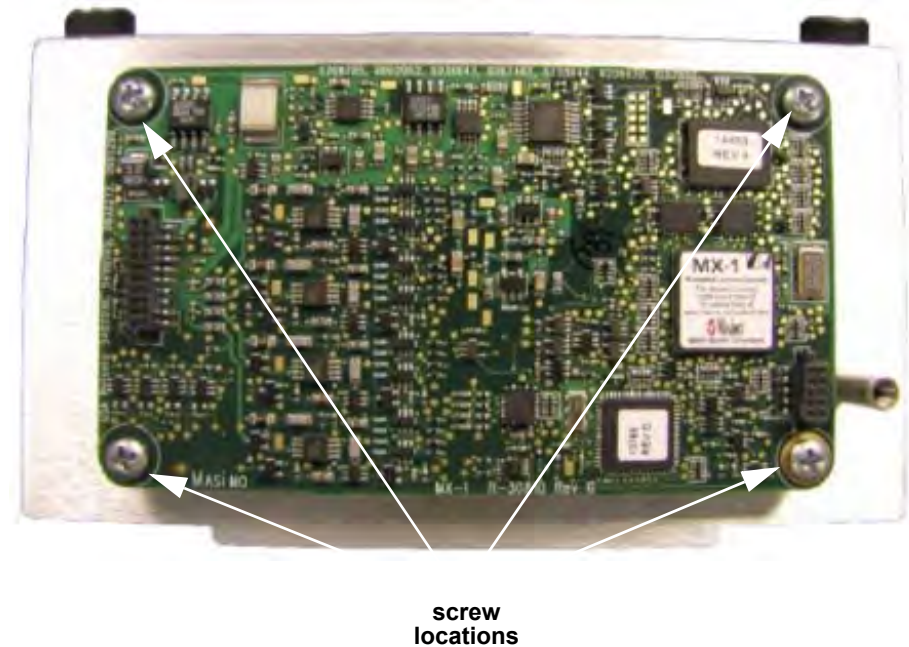

Figure 8.71—SpO2 PCB screw locations
2. Attach the SpO2 module to the bracket using four new screws (202253-760); torque to 4.0 in-lb (see Figure 8.71 on p. 279).